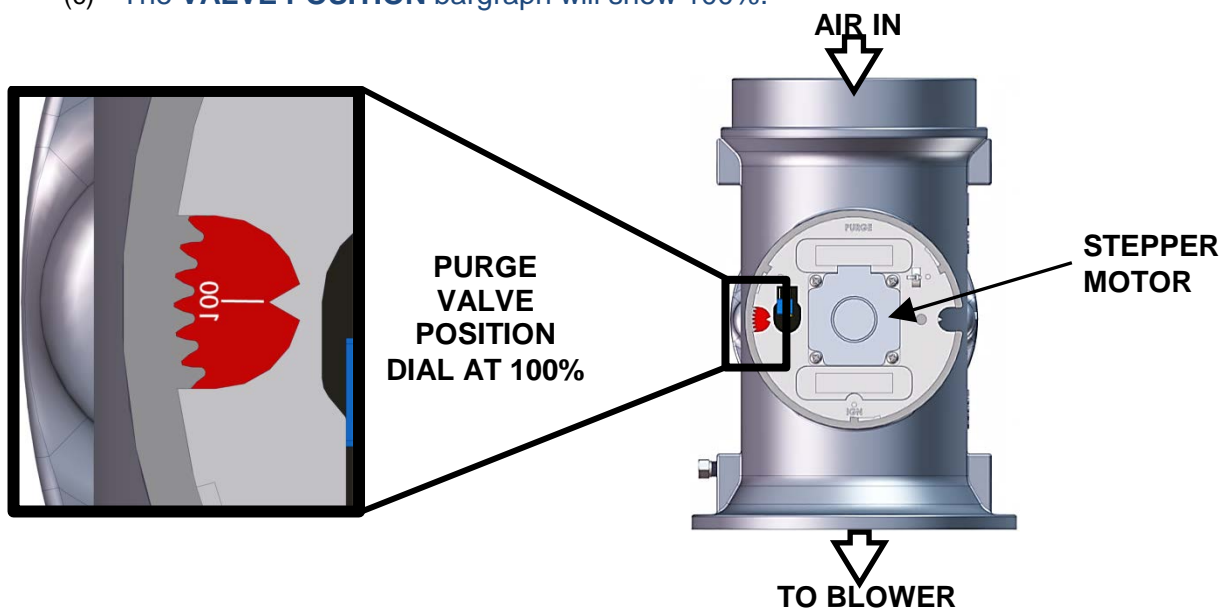

Figure 3-4. Air/Fuel Valve In Purge Position
- (b) The Air/Fuel Valve rotates to the full-open purge position and closes the purge position switch. The dial on the Air/Fuel Valve (Figure 3-4) will read 100 to indicate that it is full-open (100%).